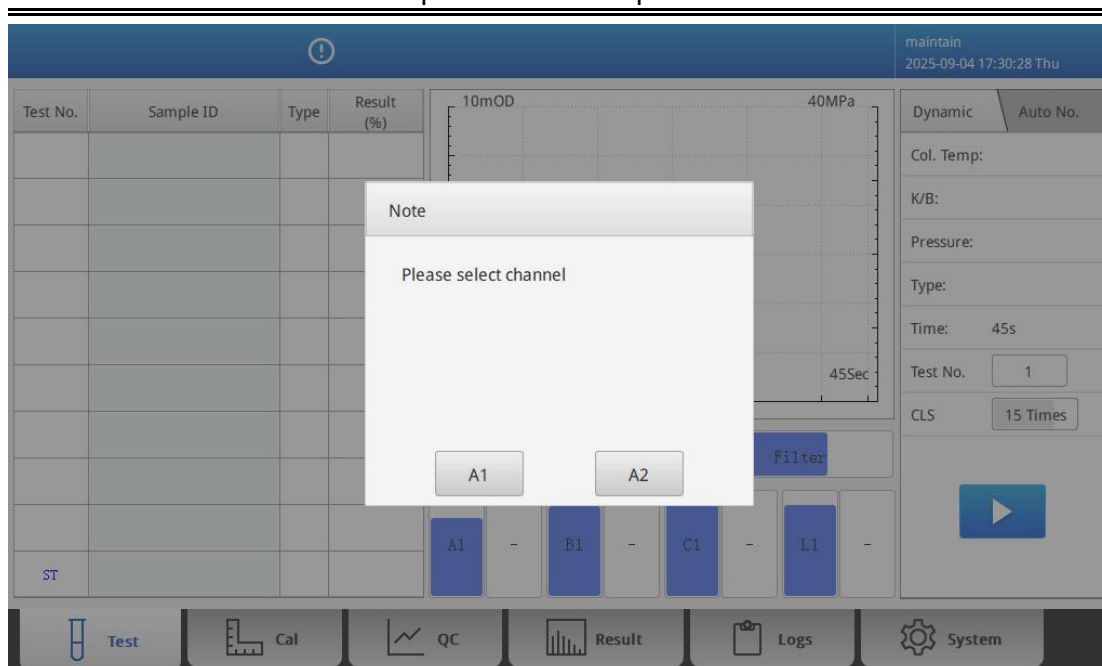

Fig. 5-10 Information of Eluent A
1) Replace it with new eluent A and use the external barcode reader to scan the QR code on the label of the reagent. **Fig. 5-10** will be displayed.